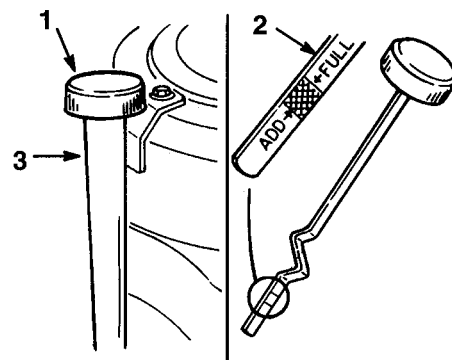

Figure 17
3. Clean around the oil dipstick (Fig. 17) so dirt cannot fall into the filler hole and damage the engine.
4. Unscrew the oil dipstick and wipe the metal end clean (Fig. 17).
5. Slide the oil dipstick fully into the filler tube, do not thread onto tube (Fig. 17). Pull the dipstick out and look at the metal end. If oil level is low, slowly pour only enough oil into the filler tube to raise the level to the "FULL" mark.
7. Slowly pour approximately 80% of the specified amount of oil into the filler tube (Fig. 17). Now check the oil level; refer to Checking Oil Level, page 20. Slowly add additional oil to bring to "FULL" mark on dipstick.